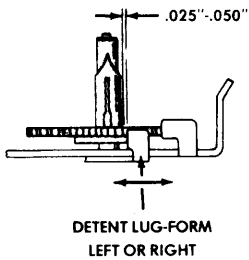

FIGURE 213. DETENT LUG
- a. Left or right, so that the ribbon feed ratchet tooth overthrows past the edge of the detented lug by $.020''-.050''$ when hand cycling to the high point of the ribbon feed cam (Fig. 213).